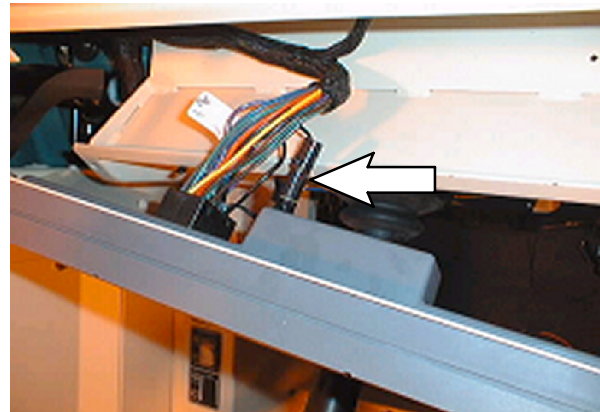

FIG. 1
1. Remove the instrument panel from the dash. Refer to Fig. 1.
2. Disconnect the Weather Pack connector. Refer to Fig. 1.